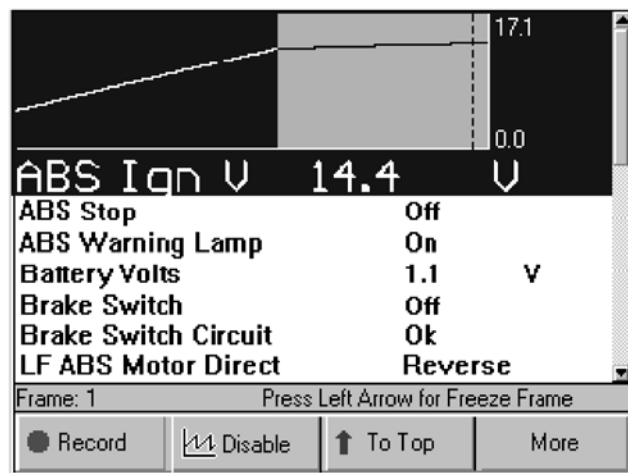

Figure 3.15: Datastream Screen - Zoom Function
- 4 Press the **ENTER** key. This magnifies the selected line, as shown in figure 3.15.